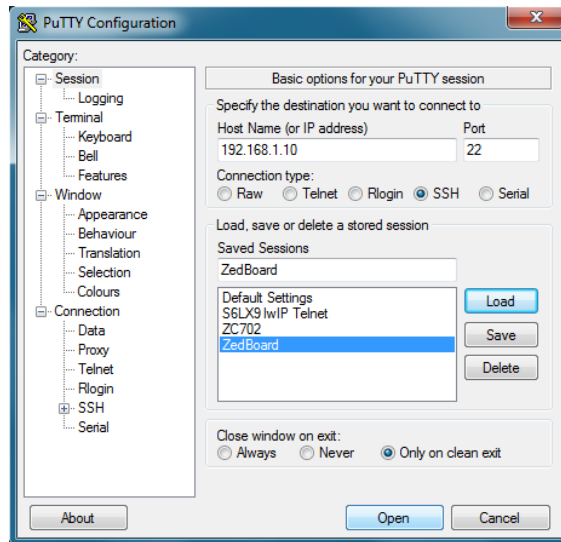

Figure 22 – ZedBoard Webpage Shown In PC Host Browser
5. The USB thumb drive should enumerate and the device indication should display on the serial console. In this example, the primary partition of this USB thumb drive has been enumerated as device `/dev/sda1` as seen in Figure 22.